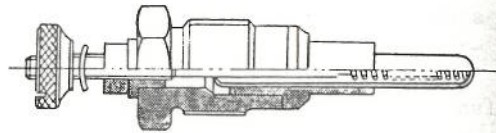

Fig. 10-93
- (3) Seized glow plug (See Fig. 10-93)